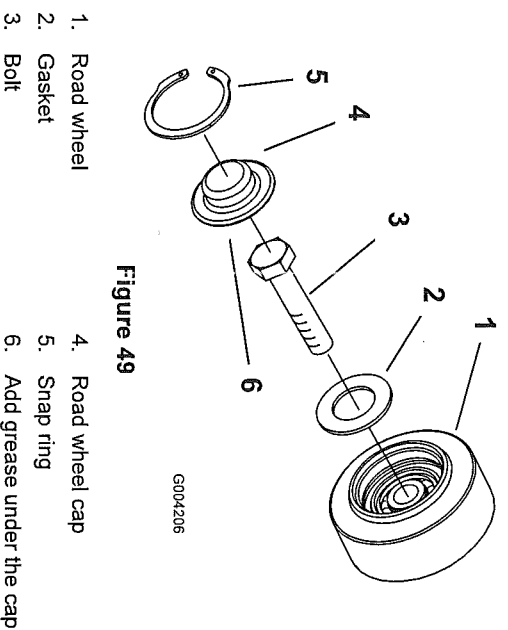

Figure 49
3. Remove the snap ring and cap from a road wheel (Figure 49).
4. Check the grease under the cap and around the gasket (Figure 49). If it is dirty, gritty, or depleted, clean out all of the grease, replace the gasket, and add new grease.
6. Place the greased road wheel cap over the bolt head (Figure 49).
7. Secure the road wheel cap with the snap ring (Figure 49).